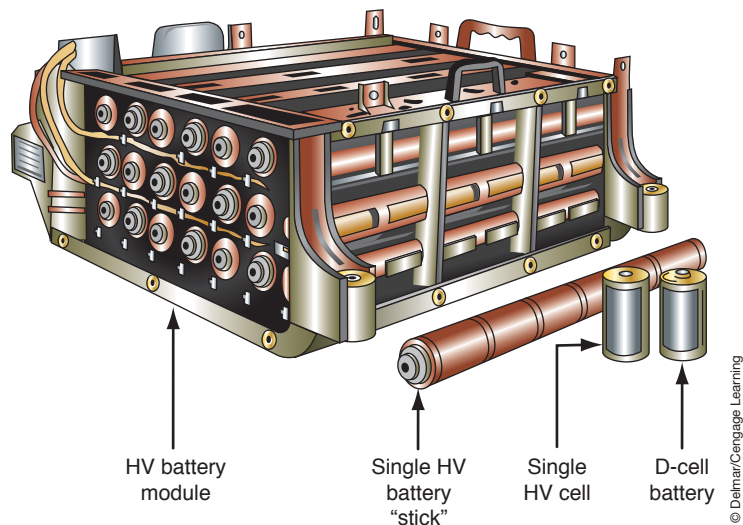
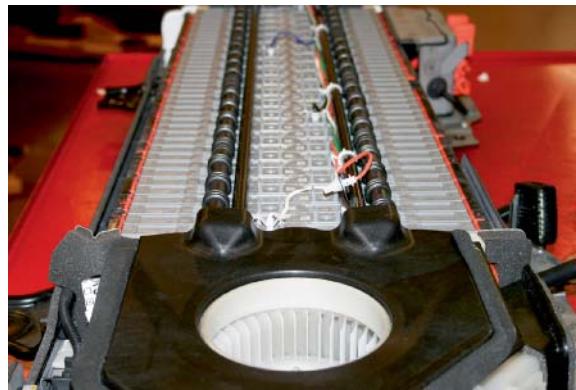

FIGURE 5-20 HV battery constructed of cylindrical cells.
FIGURE 5-21 Battery pack made of several prismatic cells.
The battery pack in a hybrid vehicle is typically made up of several cylindrical cells (Figure 5-20) or prismatic cells (Figure 5-21). These battery packs are often called high-voltage (HV) batteries. There are several types of HV batteries being used or in development.